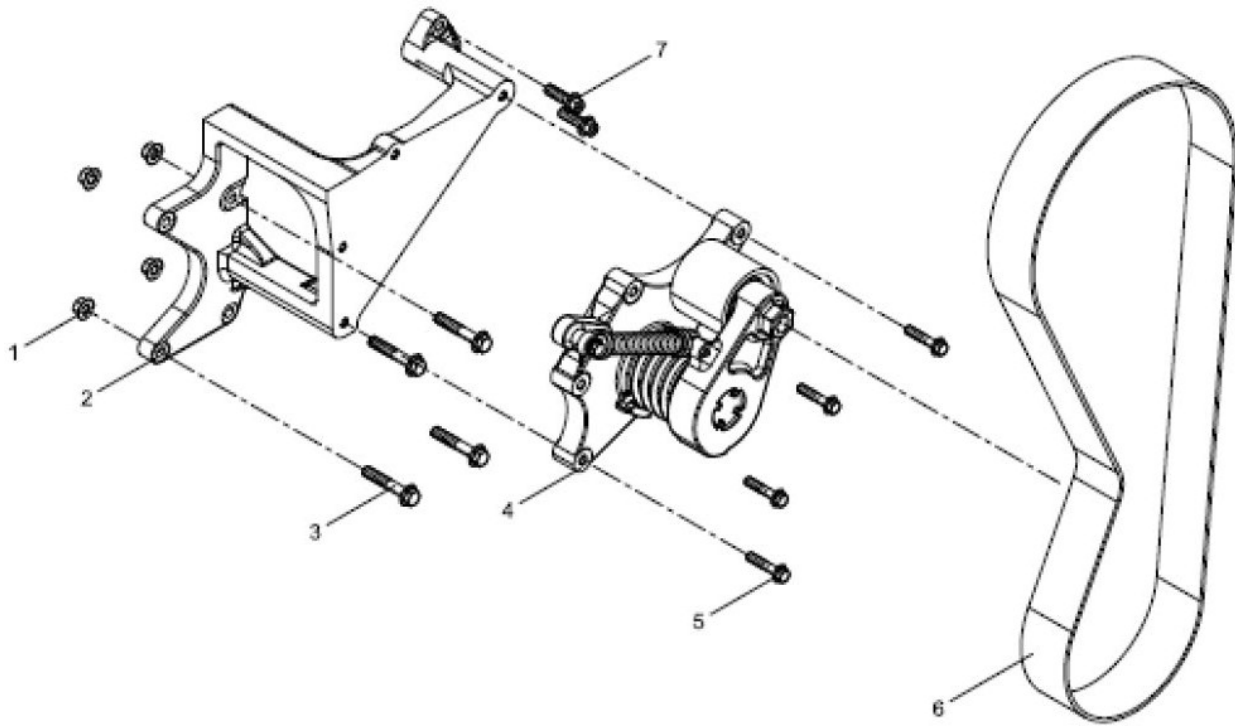

Figure 16. Automatic Fan Belt Tensioner Assembly
1. Remove belt (Figure 16, item 6).
2. Remove bolts (Figure 16, item 5).
3. Remove the automatic fan belt tensioner pulley (Figure 16, item 4).
4. Remove the bolts (Figure 16, items 7 and 3) and nuts (Figure 16, item 1) from the automatic fan belt.
5. tensioner bracket (Figure 16, item 2).
6. Remove the bracket (Figure 16, item 2).
1. Place the automatic fan belt tensioner bracket (Figure 16, item 2) onto the cylinder block.
2. Insert and torque down both bolts and nuts (Figure 16, items 1, 3 and 7).
3. Place the automatic fan belt tensioner pulley (Figure 16, item 4) onto the bracket (Figure 16, item 2).
4. Insert and torque down the bolts (Figure 16, item 5).
5. Insert belt (Figure 16, item 6).